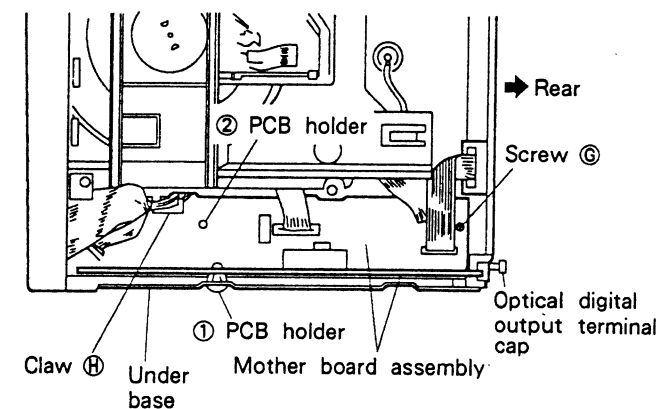

Fig. 2 - 3.
- ① Remove the float base. (See 2.3.)
- ② Remove the gear pulley and driving gear.
- ③ After rotating the clamp cam fully in the counter clockwise direction, pull it up.
- ① Remove the tray. (See 2.1.)
- ② Remove the operation panel and rear base. When removing the operation panel, remove the flat cable for the transformer board and the mother board assembly. Moreover, when removing the rear base, remove the cap of the optical digital output terminal.
- ③ Remove screw ⑥ holding the mother board assembly.
- ④ Remove the bundle of wires of the mother board assembly from claw ④ of the loading base.
- ⑤ After removing the board from the PCB holder in the order of ① and ② shown in Fig. 2 - 3, pull it out.